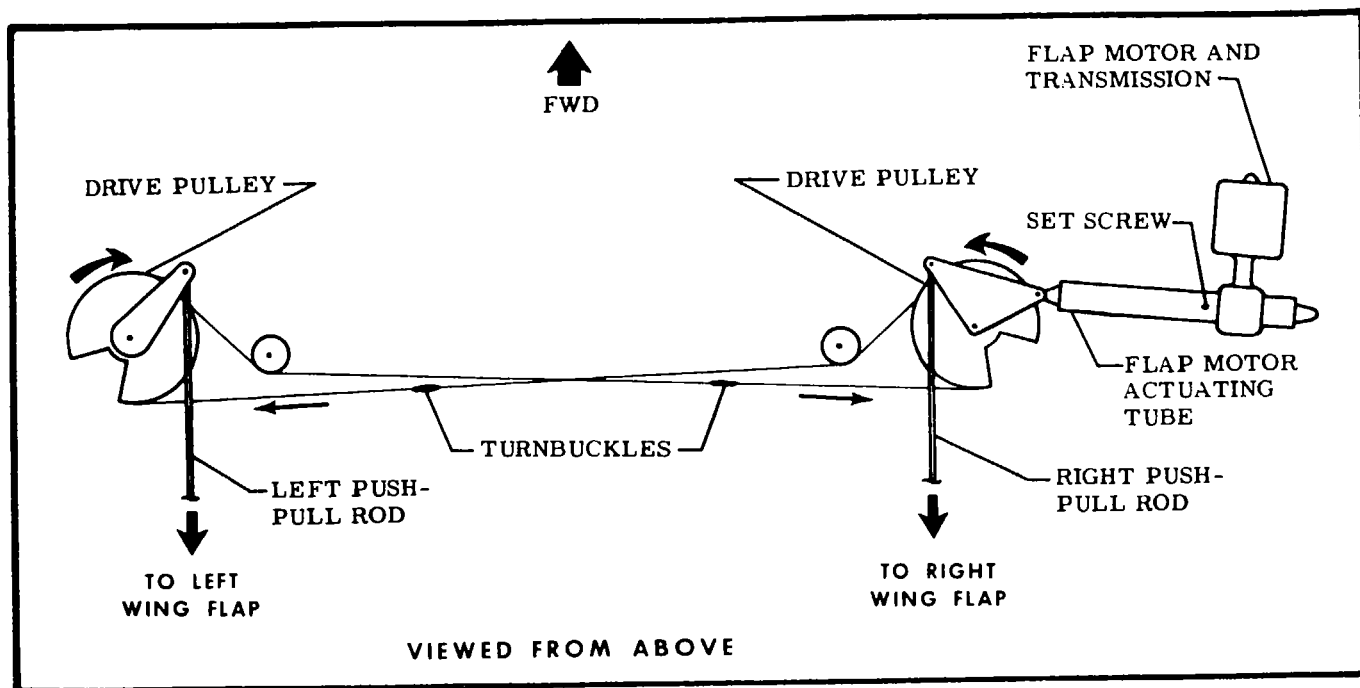

Figure 7-4. Flap System Schematic
If control cables are not connected to left and right drive pulleys, actuating tube (5) and push-pull rods (14) must be disconnected before installing cables. If drive pulleys (13) are not installed, attach control cables before installing drive pulleys in the wings as illustrated in figure 7-4.
- f. Adjust both push-pull rods (14) to 8.83±.12 inches between centers of rod end bearings and tighten locknuts on both ends. Connect push-pull rods to flaps and drive pulleys.